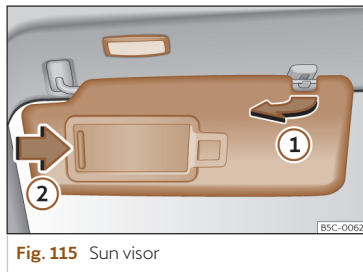

Fig. 115 Sun visor
- The sun visor can be pulled out of its mounting and turned towards the door >>> Fig. 115 ①.